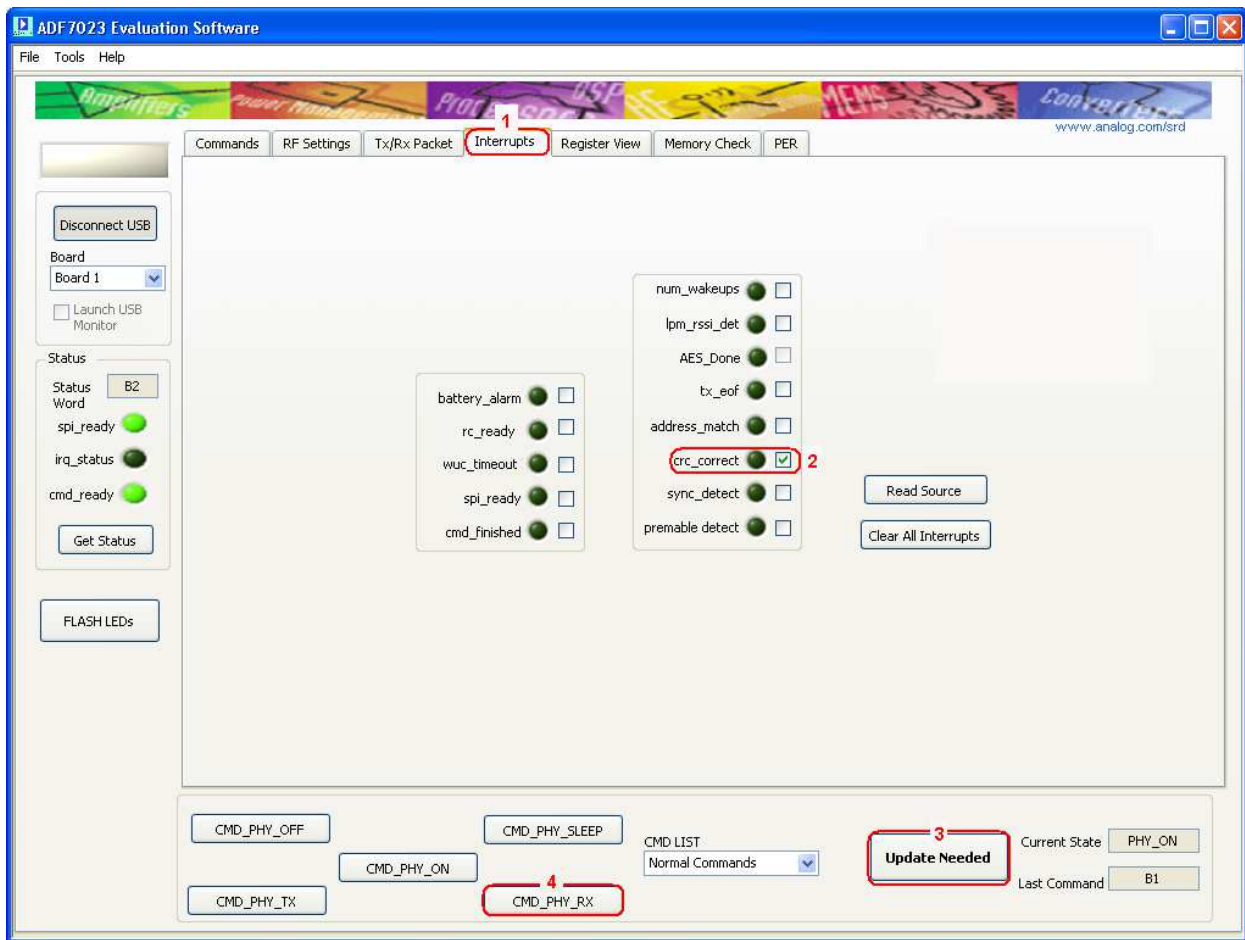

Figure 33
Interrupts may be configured for various conditions in the “**Interrupts**” tab. (Figure 33 point (1))
1. Set the “**crc_correct**” interrupt. (Figure 33 point (2))
2. Write the settings to the device using the “**Update Needed**” button. (Figure 33 point (3))
3. Put the part into Receive by pressing “**CMD_PHY_RX**” (Figure 33 point (4))